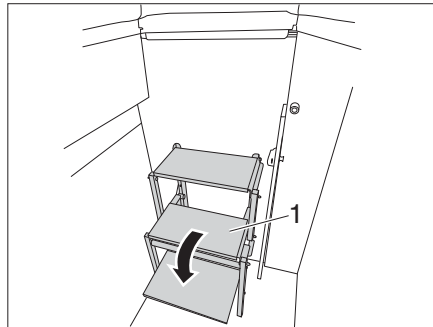

Fig. 56 Extending the step ladder
- Fold out the step ladder (Fig. 56,1).
- Fold in the step ladder (Fig. 56,1).